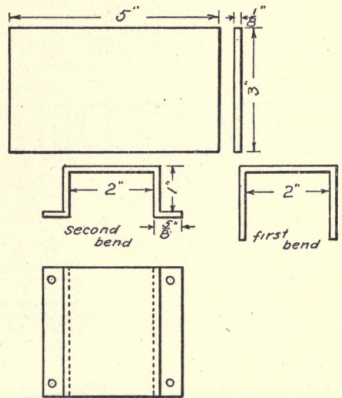

FIG. 213. — IRON FOR LEVELING ROD.
1. A piece of strap iron or heavy soft brass, Fig. 213, can be used for this slide. It is laid out with a pencil; and a line $1\frac{1}{2}$ " from each end is drawn across the piece, leaving 2" in the middle. Two other lines $\frac{1}{2}$ " from each end complete the laying out. The two ends are bent down at right angles. At the lines $\frac{1}{2}$ " from each end the iron is bent out again. The screw holes are then drilled.